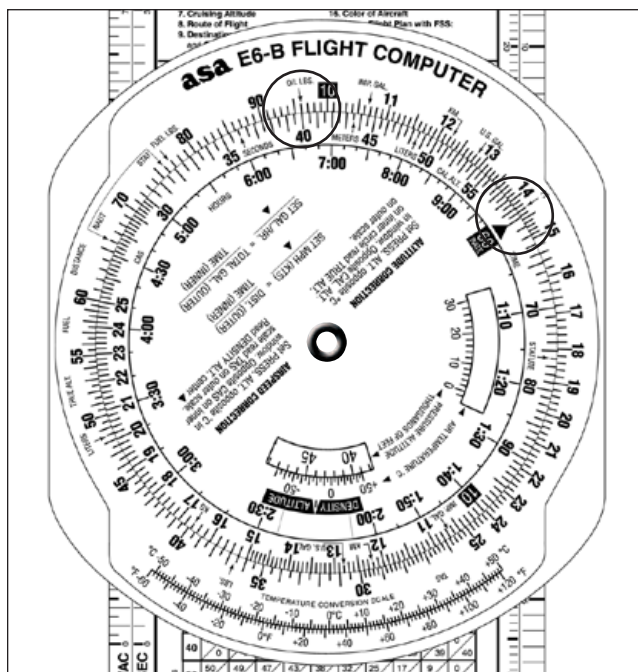

Figure 9-13. Determining groundspeed on the E6-B
2. Over the 60 (speed) index, read 144 knots (outer scale). See Figure 9-13.